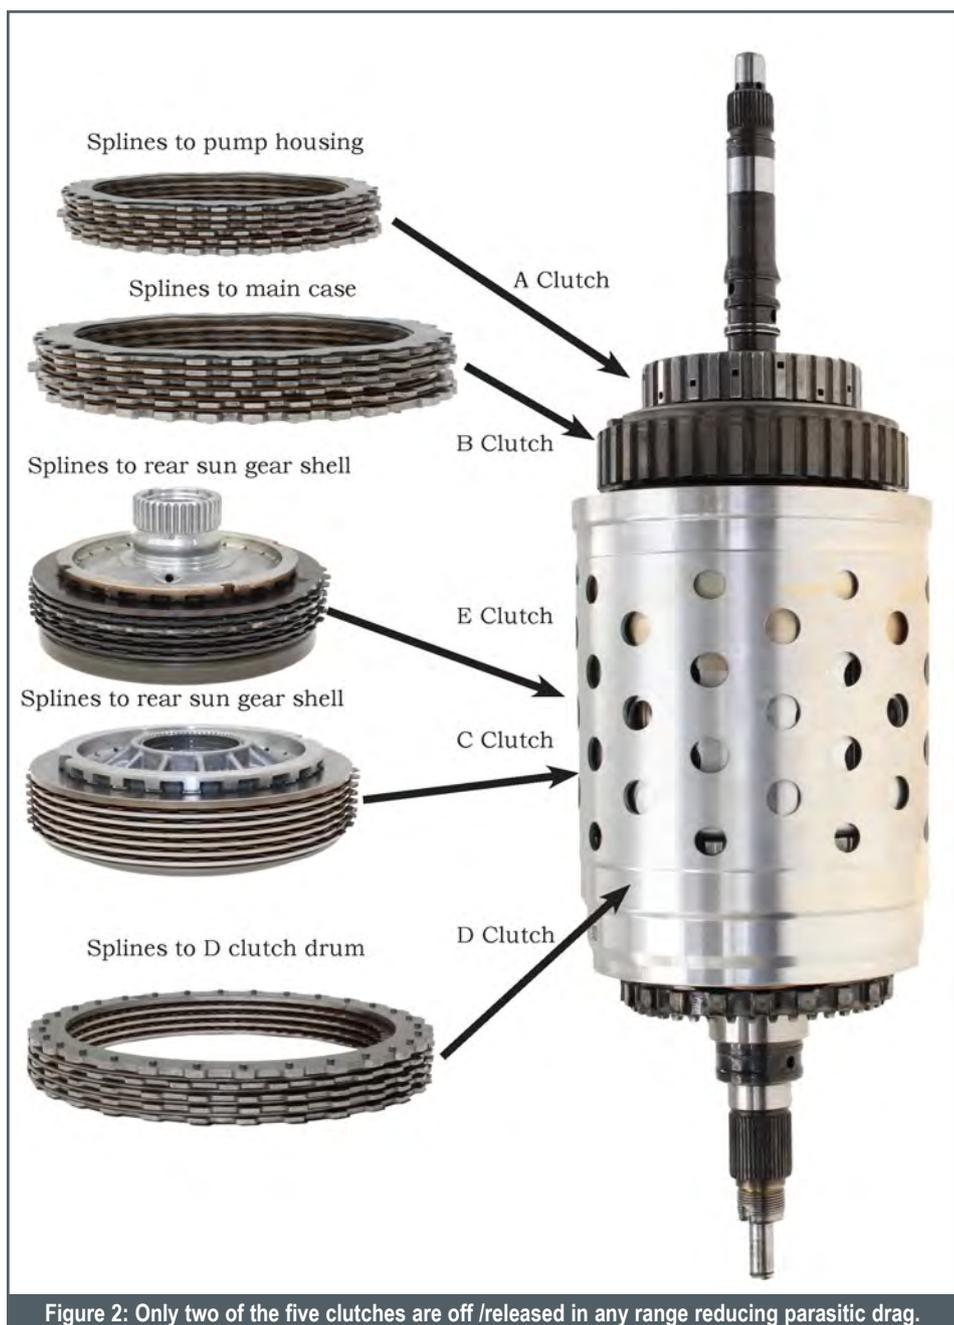

Figure 2: Only two of the five clutches are off /released in any range reducing parasitic drag.
One of the truly unique features of this unit is the clutch apply chart (figure 1). There are three driving clutches and two holding clutches, or brakes. The brakes are splined to the case. Two of the driving clutches are splined to a sun gear drum and one is splined to the D clutch drum (figure 2).
**Two of the driving clutches are splined to a sun gear drum and one is splined to the D clutch drum (figure 2).**